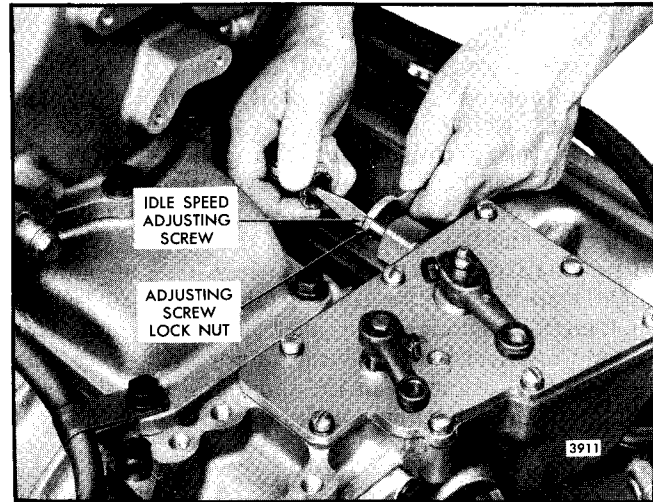

Fig. 16 - Adjusting Engine Idle Speed
screw or locknut, if used. Then adjust the idle screw to obtain the desired idle speed (Fig. 16). Hold the screw and tighten the locknut to hold the adjustment.
1. With the engine running at normal operating temperature and with the buffer screw backed out to avoid contact with the differential lever, turn the idle speed adjusting screw (Fig. 16) until the engine is operating at approximately 15 rpm below the recommended idle speed.